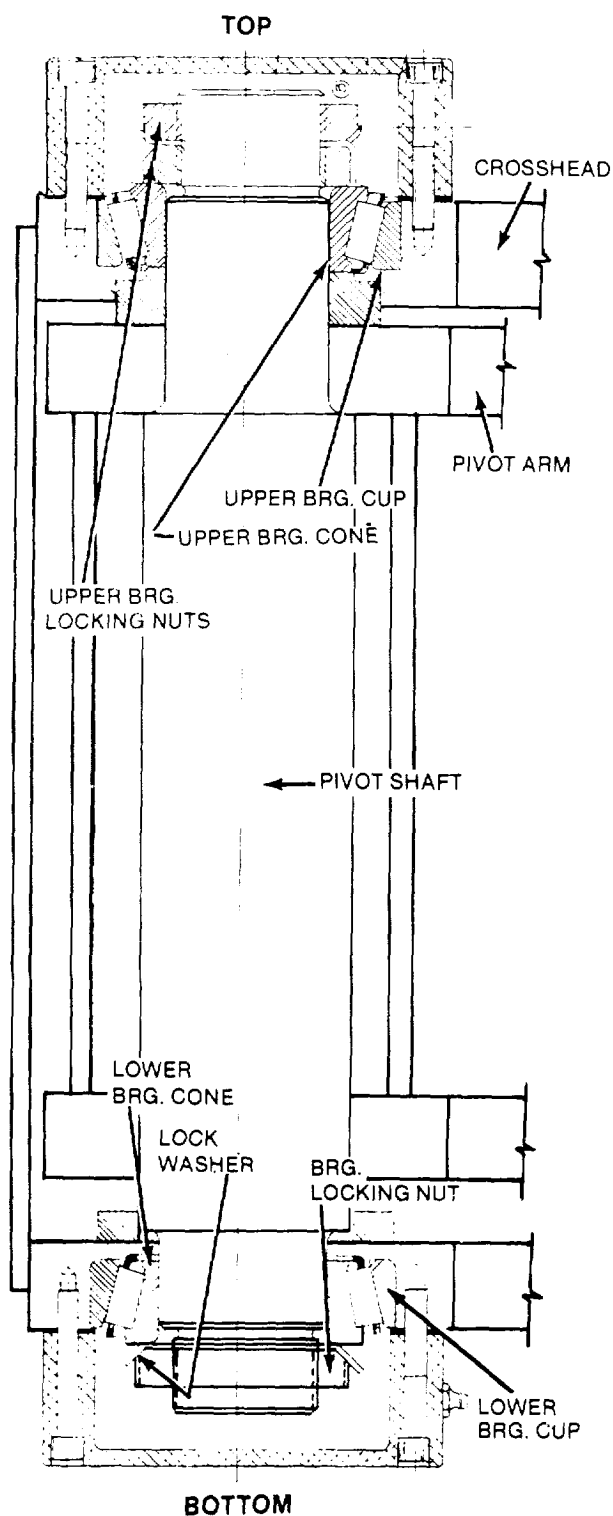

Figure 5-113
1. Install both upper and lower bearing cups in the crosshead weldment (Fig. 5-113).
4. Install pivot shaft through openings, upper bearing cone (packed with MIL-G-10924 grease and upper bearing locking nut (Fig. 5-113). Hand tighten bearing locking nut.
5. Install lower bearing cone (packed with MIL-G 10924 grease), and lower bearing locking nut. Run in bearing locking nut only part way making sure that cone is not seated into cup (Fig. 5-113).